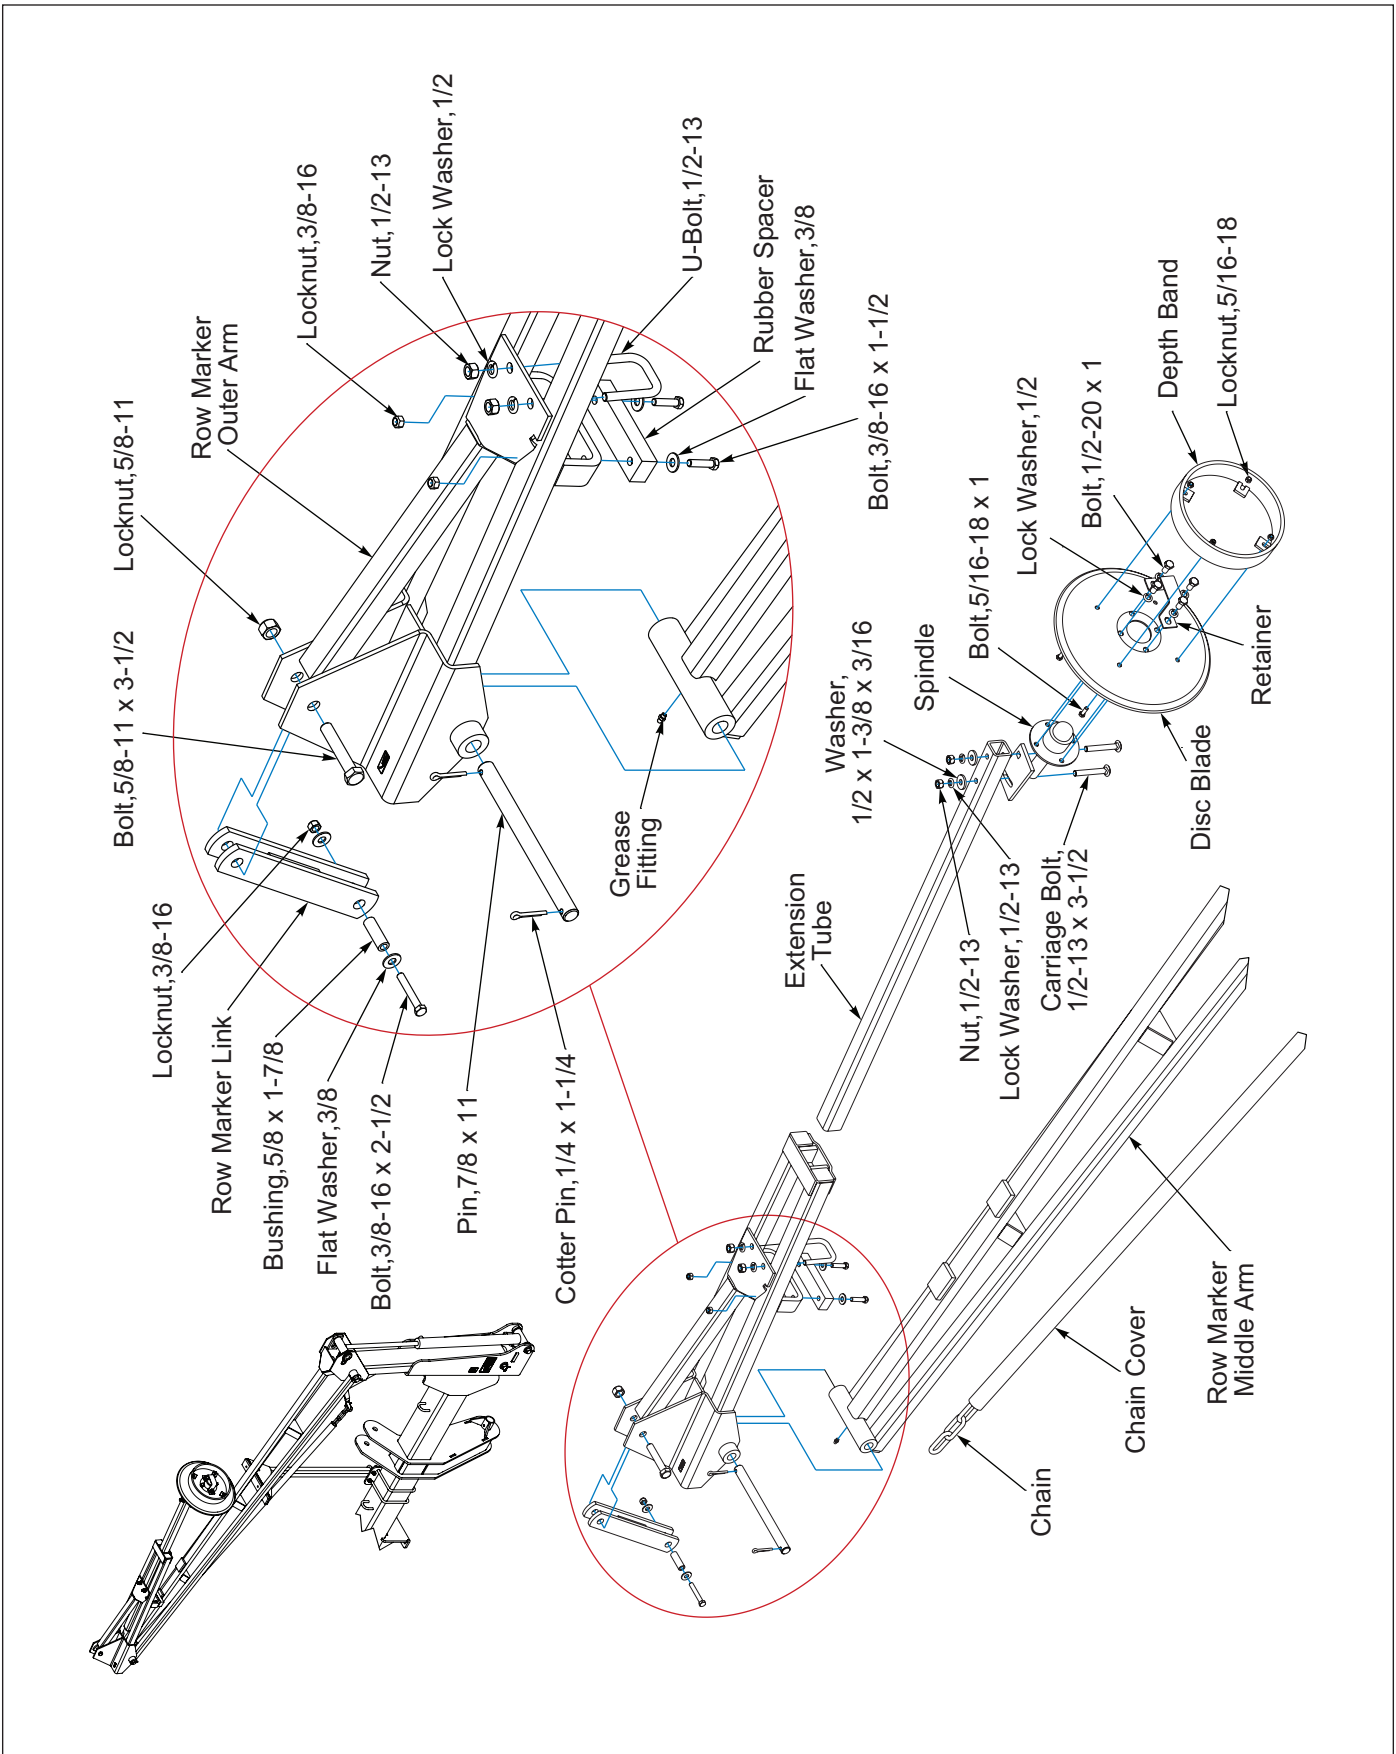

Figure 2-33: Row Marker Assembly (2 of 2)
Row Markers may be factory installed on the Folding Seeder Wing Frame Tube. Due to shipping height requirements, RH and LH Disc Blades that are Assembled onto the Spindle may be removed. Install RH and LH Disc Blade Assembly to their appropriate the Extension Tube with 1/2-13 X 3-1/2 Carriage bolts, Flat Washer, Lock Washer and Nuts. **See Figure 2-33.**
12. Assemble Rubber Spacer on the Row Marker Outer Arm Rest with 3/8-16 x 1-1/2 Bolts, Flat Washers and Locknuts. **See Figure 2-33.**